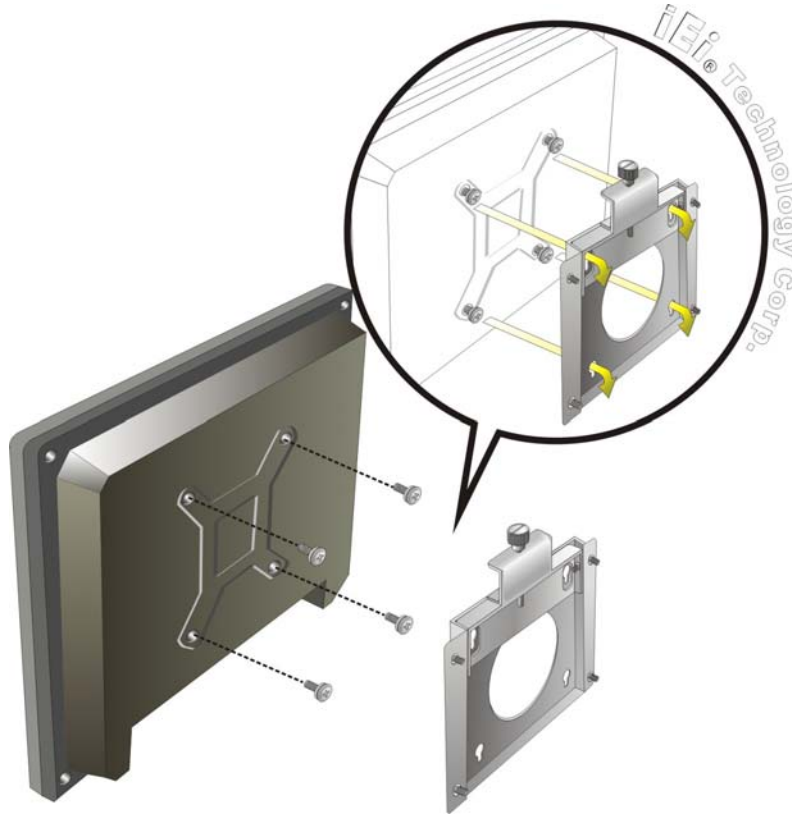

Figure 2-22: Chassis Support Screws
- Step 6:** Insert the four monitor mounting screws provided in the wall mounting kit into the four screw holes on the rear panel of the flat panel PC and tighten until the screw shank is secured against the rear panel (Figure 2-22).
- Step 8:** Carefully insert the screws through the holes and gently pull the monitor downwards until the monitor rests securely in the slotted holes (Figure 2-22). Ensure that all four of the mounting screws fit snugly into their respective slotted holes.